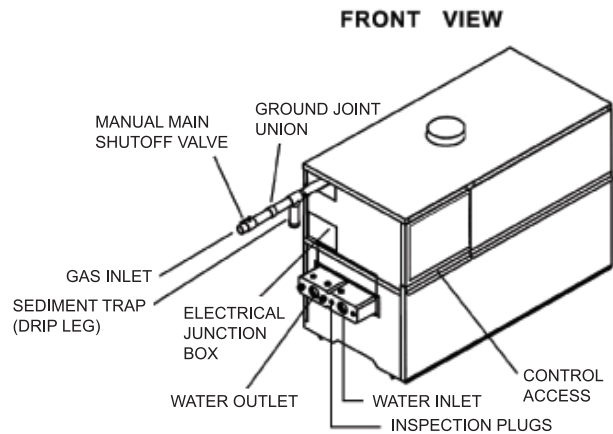

Figure 17 - 495,000 - 745,000 Btu/hr Gas Line Connection Example
5. Install a sediment trap in the supply line to the unit's gas inlet (see Figure 17).